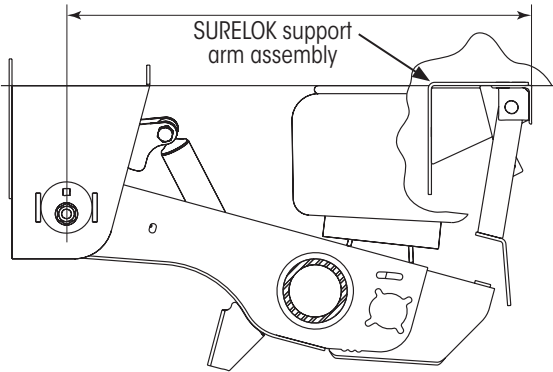

Figure 44: Sample placement of SURELOK support arm assembly
4. **Position** the support arm assembly (Figure 44) against both trailer frame beams so the back edge of the support arm assembly is on the lines scribed in previous step.